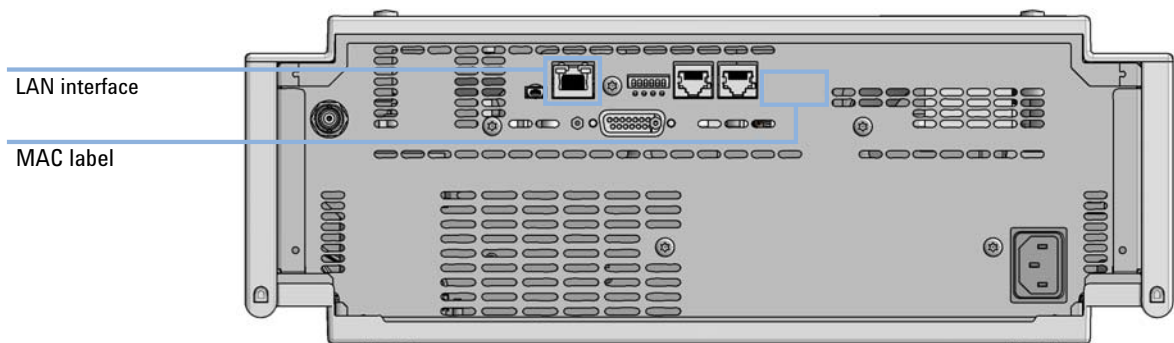

Figure 68 Location of LAN interfaces and MAC label
- 1 Note the MAC (Media Access Control) address for further reference. The MAC or hardware address of the LAN interfaces is a world wide unique identifier. No other network device will have the same hardware address. The MAC address can be found on a label at the rear of the module underneath the configuration switch (see Figure 68 on page 251).
- 2 Connect the instrument's LAN interface (see Figure 68 on page 251) to